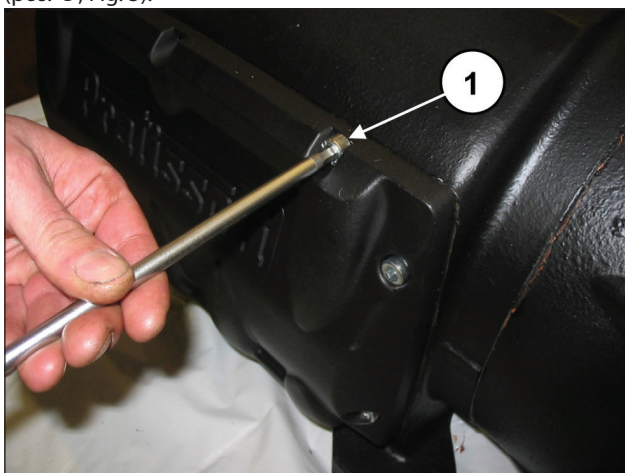

Fig. 5
Now remove the casing cover by unscrewing the screws (pos. ①, Fig. 5).